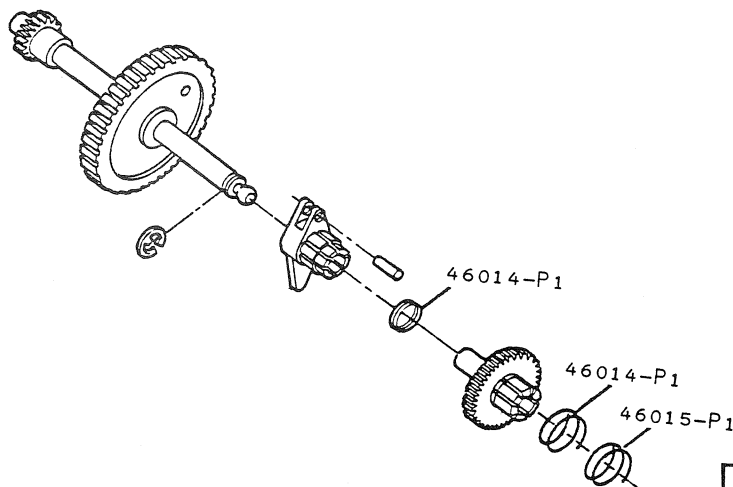

Figure 11. Clutch Springs
4. If this requirement cannot be met, change the Focus Gear Clutch Springs #46014-P1 and #46015-P1 (Figure 11) and recheck step 3 above.
4. If this requirement cannot be met, change the Sensor Drive Clutch Spring #46014-P1 (Figure 11), and recheck step 3 above.